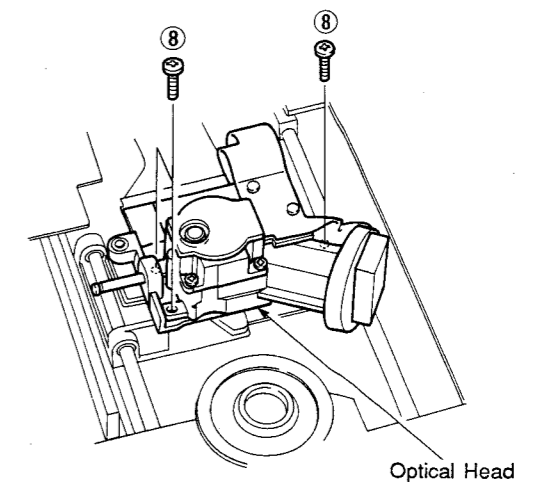

Fig. 5
c. Remove 3 screws (⑧) in Fig. 5, and then remove the optical head.
c. ⑧のネジ3本をはずし、光ヘッドをはずす。(Fig. 5)